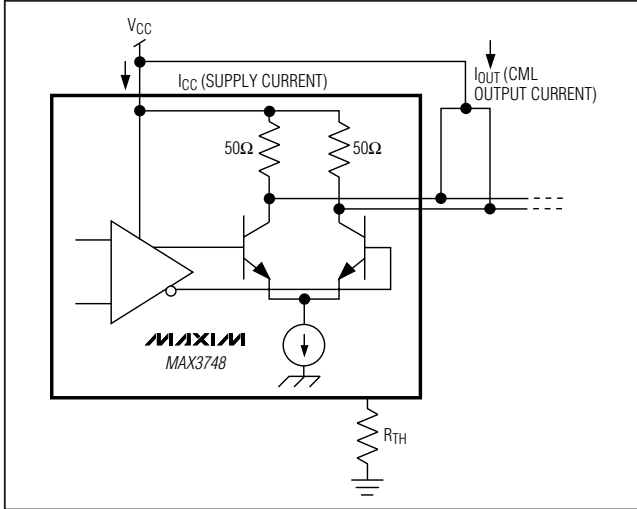

Figure 1. Power-Supply Current Measurement
- Note 6:** The supply current measurement excludes the CML output currents by connecting the CML outputs to a separate  $V_{CC}$  (see Figure 1).